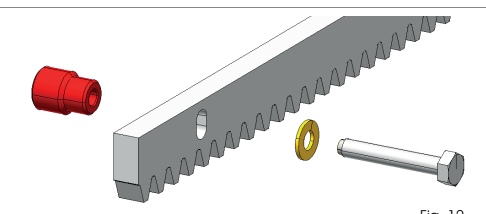

Fig. 12
5.4.2 KUGGSTÅNG I STÅL SOM SKRUVAS FAST (Fig. 12)